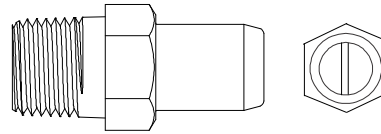
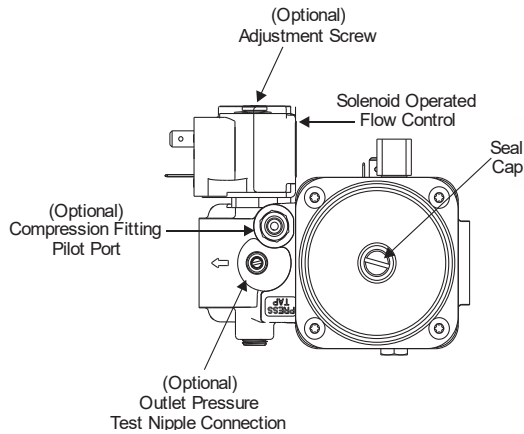

Figure 3: Y99AX-1 (1/8-27 NPT) Pressure Test Fitting
Figure 4: Underside of Valve with Bottom Adjust Regulator
- Connect the pilot tubing (when necessary) to the threaded pilot connection on the underside of the valve body (Figure 4) and run the tube to the pilot burner within the appliance. Connect the pilot tube to the valve with an optional compression fitting.
- Optional lo flow adjusting screw in the end of the solenoid (see Figure 4) Adjust clockwise to restrict the flow and counter clockwise to open the flow. To prevent damage to the seal, do not over tighten when turning clockwise.
- If you desire to measure the outlet pressure, use the (optional) bottom cast pressure test fitting (see Figure 4) or use the (optional) Y99AX pressure test fitting (see Figure 3) located on the side of the valve using an approved pipe joint compound on the male threads and replace the marked pressure tap plug, which is optional on the inlet or outlet of the valve body. Screw the fitting into threaded port of the valve, which replaces the pressure tap plug.
1. (Optional) Lo flow adjusting screw in the end of the solenoid (see Figure 4). Adjust clockwise to restrict the flow and count clockwise to open the flow. To prevent damage to the seal, do not over tighten when turning clockwise.
2. If installing a valve with a pressure regulator, set the valve to the desired outlet pressure. See the Regulator Adjustment section for specific adjustment procedures. After setting the valve outlet pressure, ensure that the Leak-limiting seal cap is replaced (see Figure 4).
To adjust the outlet pressure, remove the leak-limiting seal cap to expose the adjusting screw (see Figure 4). Turn the screw (using a suitable screwdriver) in a clockwise direction to increase or in a counterclockwise direction to decrease the outlet pressure of the valve.